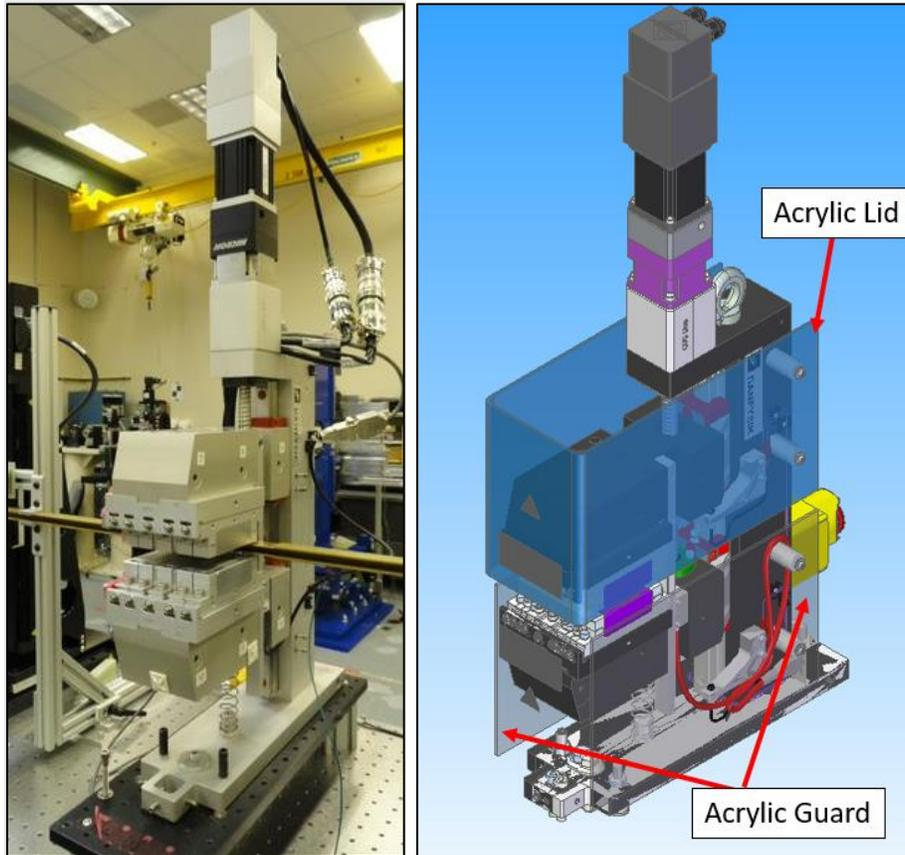

Figure 1: HE prototype Phase Shifter (left) and model of Phase Shifter (right)
The purpose of this document is outlining the plan to perform the upgrade of the LCLS-II SXR Phase Shifters for the LCLS-II High Energy (HE) project. The magnet arrays need to be upgraded to handle the new specifications for the new LCLS-II-HE project. See the Phase Shifter below in Figure 1.